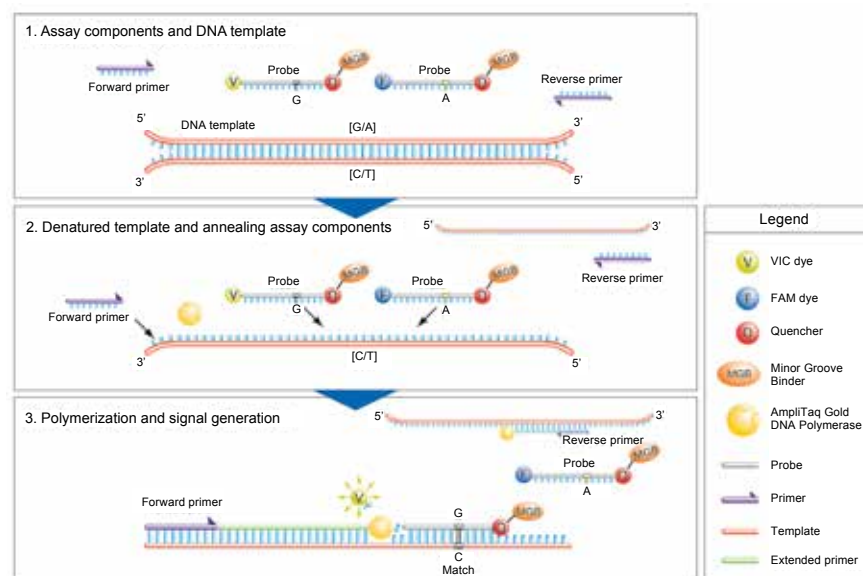

Figure 1. Allelic discrimination is achieved by the selective annealing of TaqMan MGB probes.
Detection is achieved with proven 5' nuclease chemistry by means of exonuclease cleavage of an allele-specific 5' dye label, which generates the permanent assay signal (Figure 1). All MGB probes include a nonfluorescent
TaqMan Assays are used to amplify and detect specific variants in target genomic DNA (gDNA). Figure 1 depicts the Applied Biosystems™ TaqMan™ SNP Genotyping Assay process. Real-time PCR using TaqMan Assays is based on the 5′ nuclease activity of Taq DNA polymerase.
Figure 1. The TaqMan SNP Genotyping Assay. (1) The four TaqMan SNP Genotyping Assay components and the target DNA template with the SNP alleles (in brackets). (2) The denatured DNA target and annealing of the assay components. (3) Signal generation leading to specific allele detection.